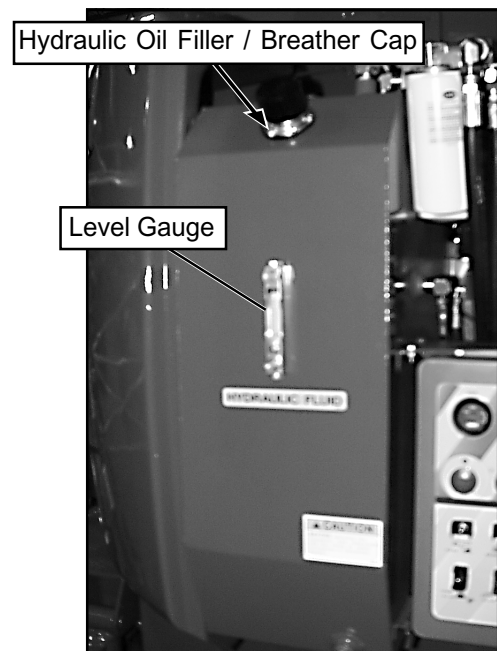

Figure 9: Hydraulic Oil Filler / Breather Cap
1. Check level at sight gauge inside engine compartment right hand side with the platform fully lowered. (Figure 9)